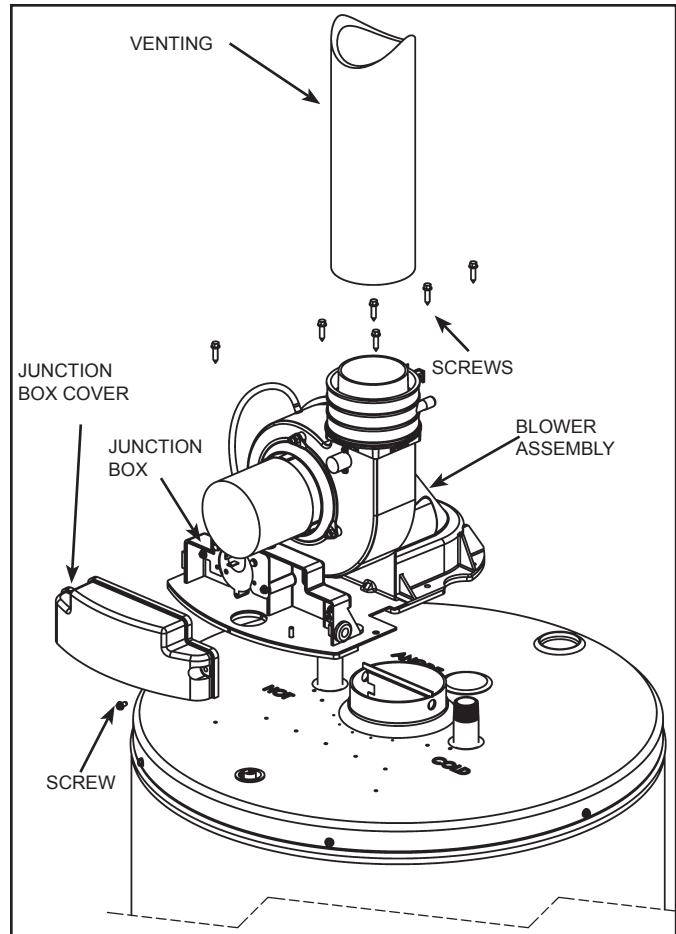

Figure 28. Removing the Blower
4. Use a 5/16" nut-driver to loosen the screw on the upper gear clamp of the rubber coupling adapter connecting the venting to the blower. Slowly pull the vent from the adapter. See *Figure 28* (page 24).
5. Use a 1/4" nut-driver or 1/4" socket & ratchet to loosen the screw on the junction box. Remove and retain the screw and junction box cover. Disconnect the power and ground connectors. See *Figure 28* (page 24).
6. Use a 1/4" nut-driver or 1/4" socket & ratchet to loosen, remove and retain the 6 hex head screws so the blower assembly can be removed. Remove the blower while carefully passing the power and ground connectors through the junction box opening. See *Figure 28* (page 24).
3. Align the screw holes on the blower assembly with those on the top of the heater. Using the six screws removed in step 6 above, install the blower assembly and tighten with 1/4" nut-driver or 1/4" socket & ratchet. See *Figure 28* (page 24).
**Note:** This power vent heater will accept a 2" or 3" rubber outlet coupling, depending on the size of the water heater. This coupling, mounted in the vertical position, accepts the vent piping and is attached as shown in **Figure 28**. See the **Manual** to determine vent pipe sizing for your application. The blower assembly may be rotated 90 degrees clockwise or counter-clockwise to allow horizontal venting in areas having restricted space above the water heater. See **Rotating The Blower** (page 24).
This power vent heater can accept 2" or 3" rubber outlet coupling, depending on the capacity of the water heater. This coupling, mounted in the vertical position, accepts the vent piping and is attached as shown in **Figure 28**.